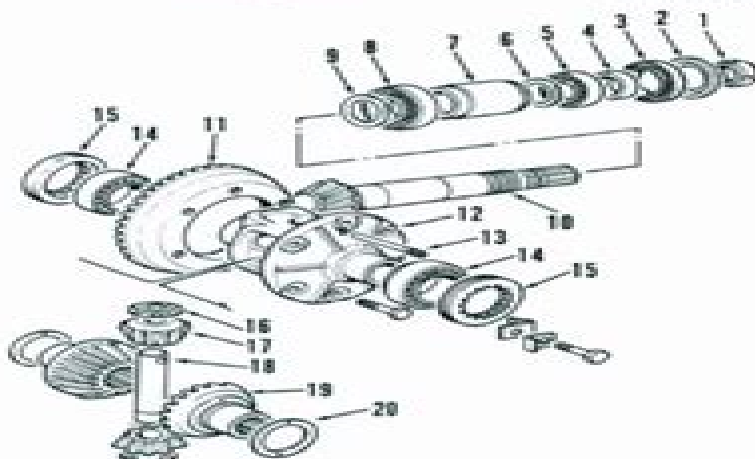

Fig. 9—Exploded view of front-wheel drive differential and bevel gear assemblies.
Block teeth of pinion gear and ring gear to prevent pinion shaft movement, then loosen pinion shaft locknut (1—Fig. 9), mark differential carrier bearing caps to carrier housing so they can be reinstalled in their original positions. Remove bearing caps and adjusting rings (15). Lift differential and ring gear assembly from carrier housing.
To check and adjust differential side gear (19) clearance, assemble side gears without thrust washers and pinion gears with thrust washers into differential case. Install pinion gear shaft and retaining screw. Use a depth micrometer (Fig. 10) to measure distance from edge of case to the end of one of the side gears with gear pushed inward against pinion gears and with gear pulled outward against case. Subtract measurement with gear held outward from measurement with gear held inward to determine side gear clearance, then subtract 0.010 inch (0.25 mm) from the clearance figure. The result is thickness of thrust washer (20—Fig. 9) that should be installed to provide desired end clearance of 0.010 inch (0.25 mm). Repeat the procedure for side gear on opposite side as different thickness washer may be required to provide desired end clearance for each gear.